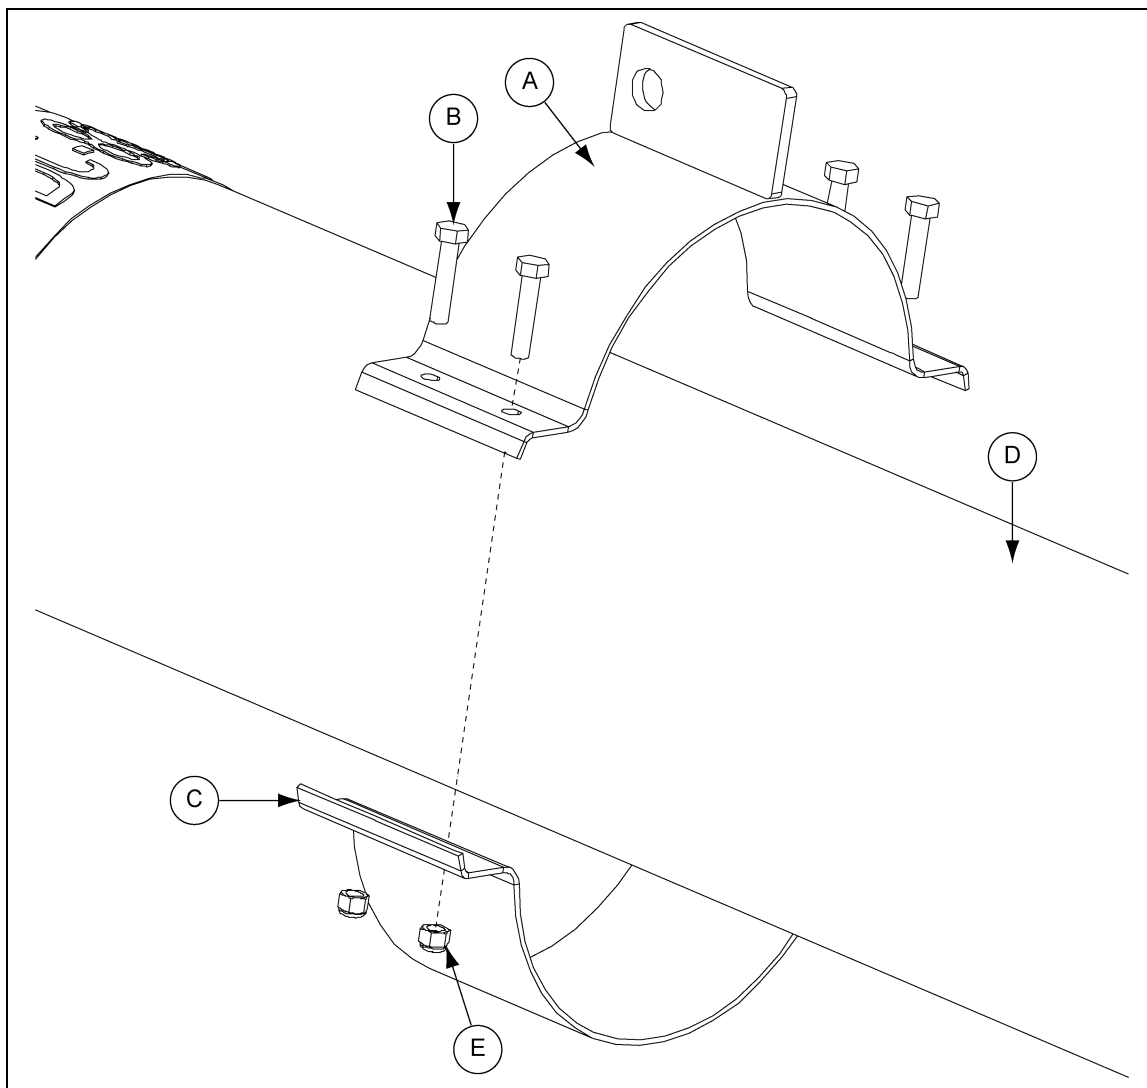

Figure 4F
1. Begin by placing the truss support (A) on the top side of the auger tube (D). Position the truss support half band (C) below the truss support (A) and align the holes. Attach together using appropriate hex bolt (B) and nylock nut (E). Do not tighten the nuts (E) down until the proper distance has been determined for the desired angle. (See Figure 4F.)